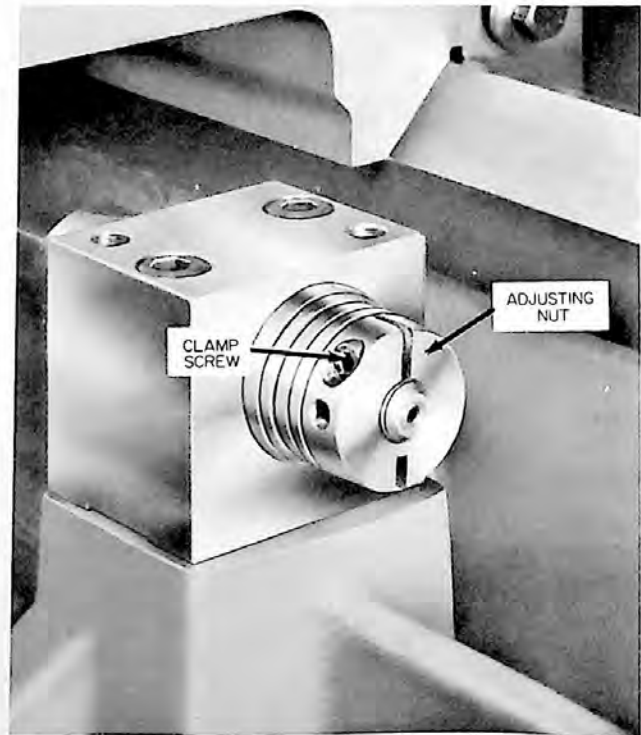

Fig. 6G. Adjustment of Bearings at Back End of Cross Feed Screw.
3. Loosen socket head clamp screw in adjusting nut (see Fig. 6G).